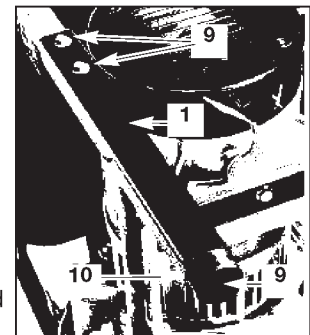

Figure 9
- Tighten lock nuts (7) on wheel brackets.
- Attach rubber bumpers (10) to foot brackets (1) using screws (9) and keps nuts (13). Tighten securely.
- Attach foot bracket assembly (1) to generator frame with screws (9). See Figure 9. Tighten screws securely. **NOTE:** These screws are self-tapping and may require pressure to start. Repeat on other side.